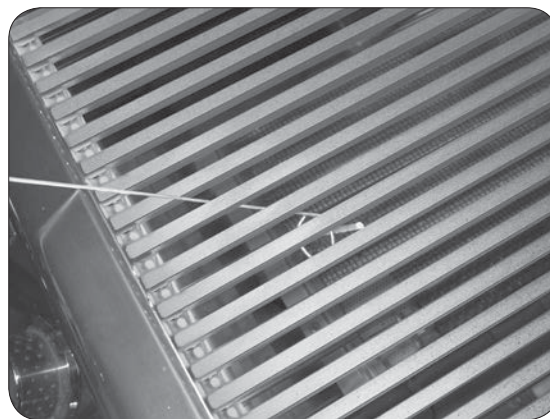

Fig. 22-2 - Manual lighting
2. Insert either a burning long-barrel butane lighter, a burning long-stem match, or a burning match held by a wire extension holder through the cooking grid opening to the top of the burner (Fig. 22-2).
4. If the burner does not light within five (5) seconds of turning the control knob, **immediately depress the knob and turn the valve to OFF**. **WAIT FIVE (5) MINUTES** before repeating steps 2 through 4 of the **MANUAL LIGHTING** instructions.